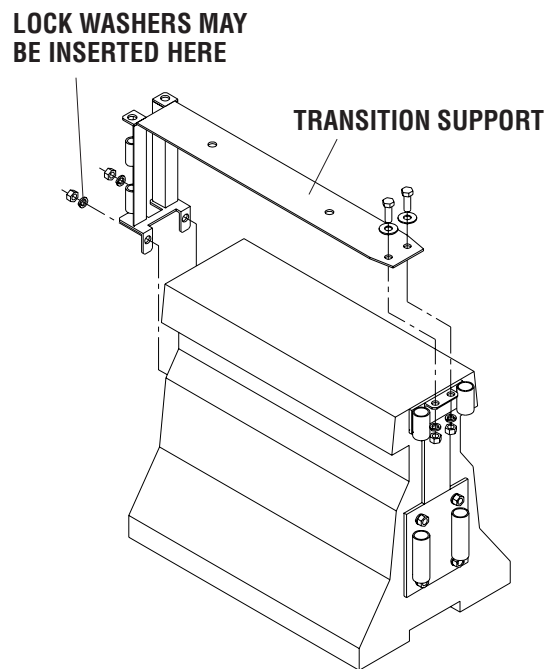

Figure 13
Step 3: Install N-E-A-T QMB TRANSITION SUPPORT (See Figure 13)